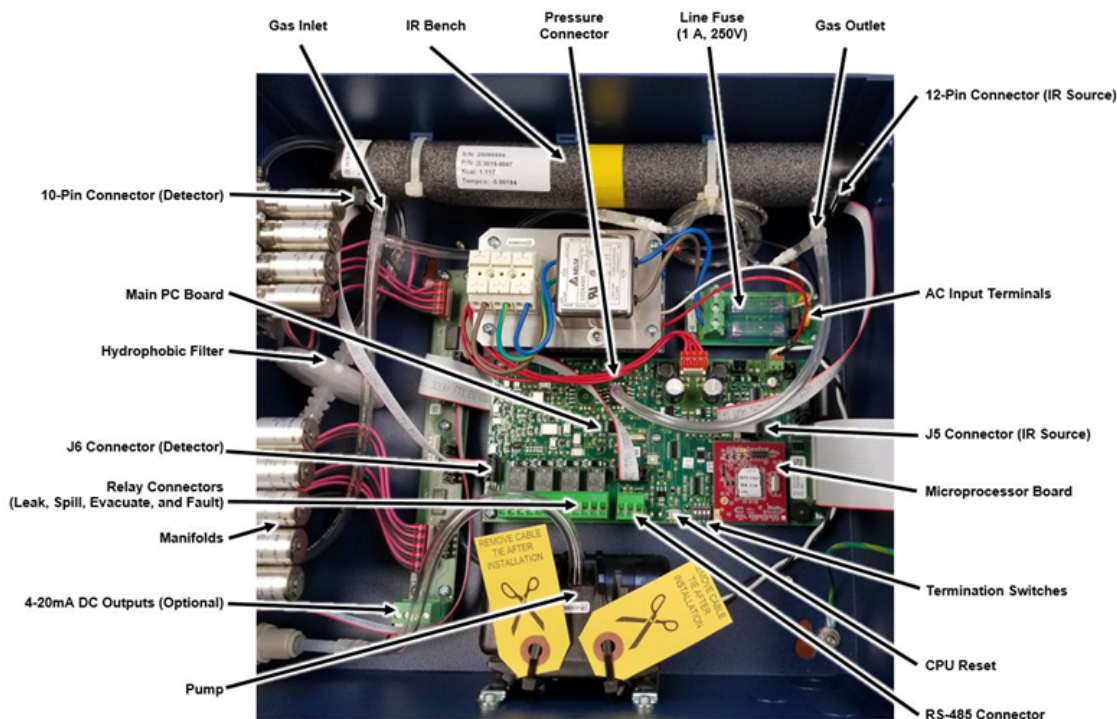

Figure 7 MZ Monitor Interior Components
1. Locate the RS-485 connector in the MZ (see 3.3 Interior Components, Figure 7).